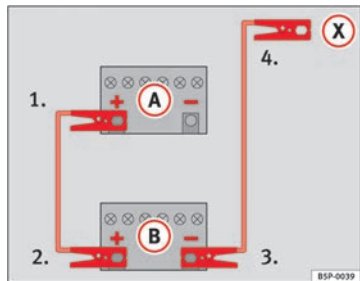

Fig. 214 Diagram of connections for vehicles without Start Stop system
2. Connect one end of the *red* jump lead to the positive (+) terminal of the vehicle with the flat battery (A) ⇒ Fig. 214.
3. Connect the other end of the *red* jump lead to the positive terminal (+) in the vehicle providing assistance (B).
4. **For vehicles without Start-Stop system:** Connect one end of the *black* jump lead to the negative terminal (-) of the vehicle providing assistance (B) ⇒ Fig. 214.